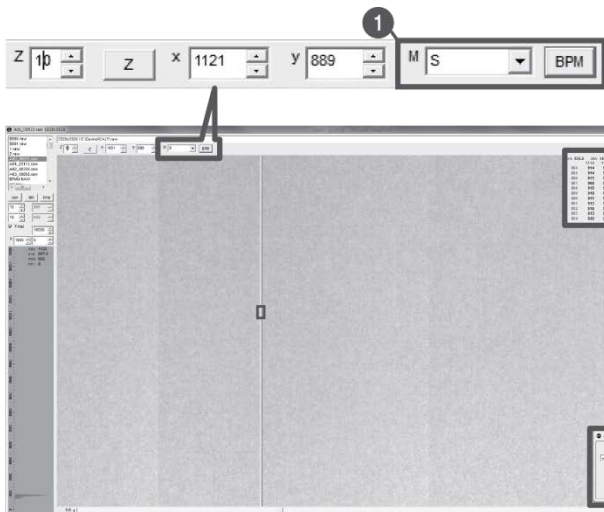

Figure 1. View Image
1	At Figure 1, choose S from the list of M(1) and click "BPM". Check if BPMM window is popped up as Figure 3.